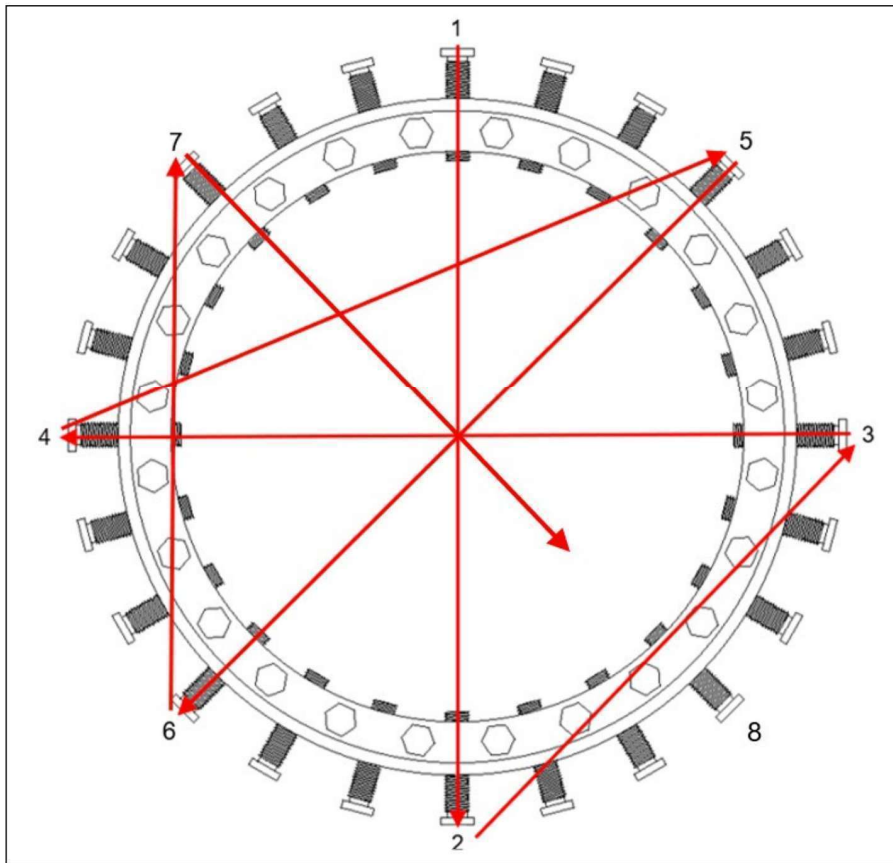
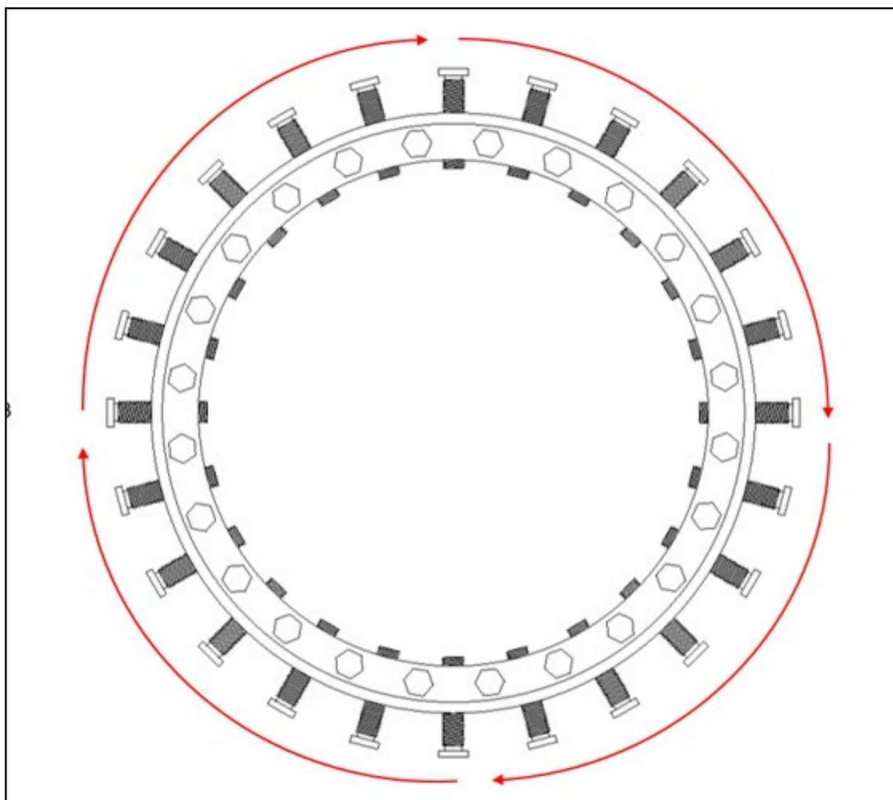

Figure 3
Figure 4
9. Clamp screws must be tightened evenly while maintaining an equal space between the pipe and the fitting. Tighten the clamp screws one at a time in a repeated sequence that matches Figure 3. The first time through the sequence, tighten the screws to 25% of the torque. The second time through, tighten the screws to 50% torque. The third time through, tighten the screws at 100% torque. Then, follow a circular tightening sequence that matches Figure 4, at 100% torque, until the Clamp Screws are unable to continue spinning. Once this is achieved, the next set of clamp screws on the other side of the PLIDCO Weld+Ends can be tightened using this same procedure.